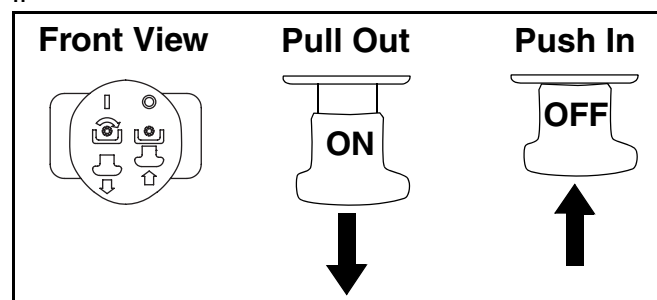

Figure 11
- Pull the PTO knob outward into the engaged (ON) position. See Figure 11.